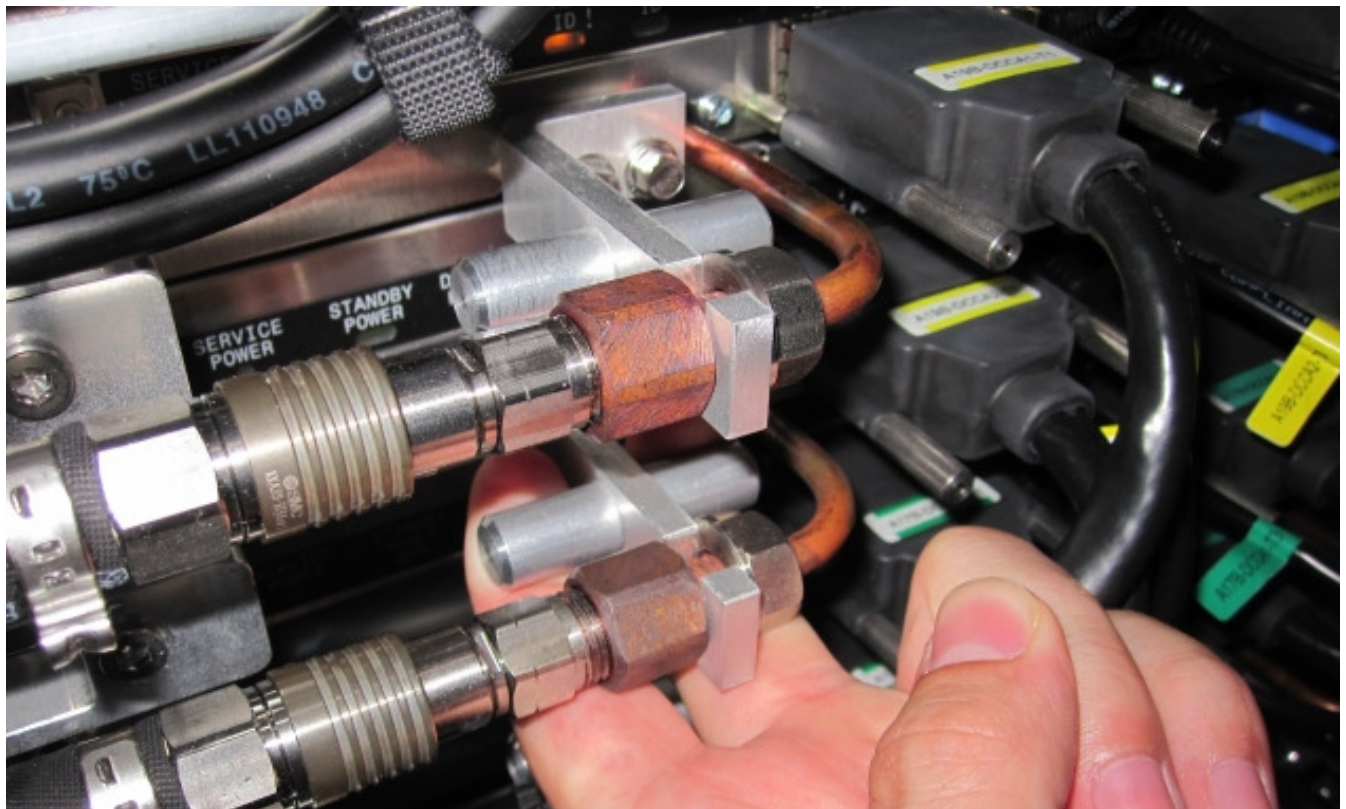

Figure 21 CEC Drawer removal features
STEP 32 Return to the front of the rack and start to slide the CEC Drawer out of the frame using the metal features as shown in Figure 21. The metal features are fixed to the DCCA to the left and right side of the DCCA Power Cables.